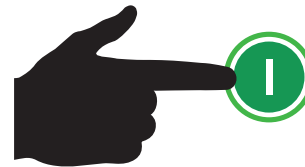

Figure 143. Start Button
5. Press the **START button** (Figure 143) on the touch display.